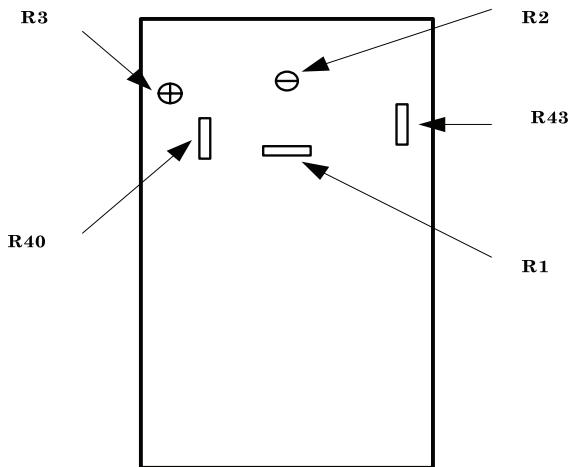

Figure 3. Simpson, models 260-6XLP and 260-6XLPM.
| Ac volts range | Indication (V) | Initial output (V) | Frequency (Hz) | err indication ± (%) | Adjustments (fig. 3) (R) |
²Short leads together. If TI does not indicate **0**, adjust R2 (Fig. 3). Then, with leads separated, rotate TI **OHMS ADJ** control to set TI pointer to infinity (∞) on the blue low power ohms arc. If pointer cannot be adjusted to infinity (∞), replace the 1.5 V battery.
| Dc current range | Indication (A) | Initial output (A) | err indication ± (%) | Adjustments (fig. 3) (R) |
²With leads separated, rotate TI OHMS ADJ control to set TI pointer to infinity (~) on the blue low power ohms arc. If pointer cannot be adjusted to infinity (~), replace the 1.5 V battery. If pointer still cannot be adjusted to infinity (~), rotate TI OHMS ADJ control to the middle of its rotation, then adjust R2 (Fig.3) to set pointer to infinity on the blue low power ohms arc.